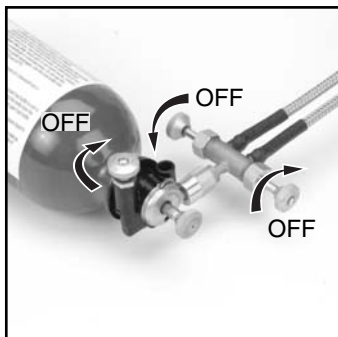

FIG. 16
- Make sure all FUEL VALVES are fully “OFF” (Fig 16).